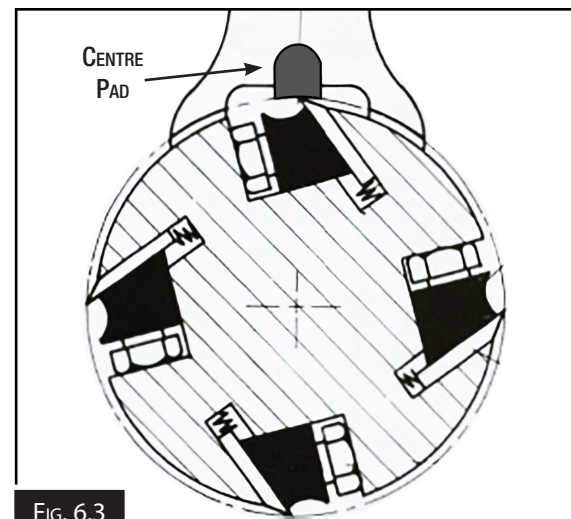

FIG. 6.3
6. Position the blade setting jig over the blade so that blade edge is directly under center pad, as shown in Fig. 6.3